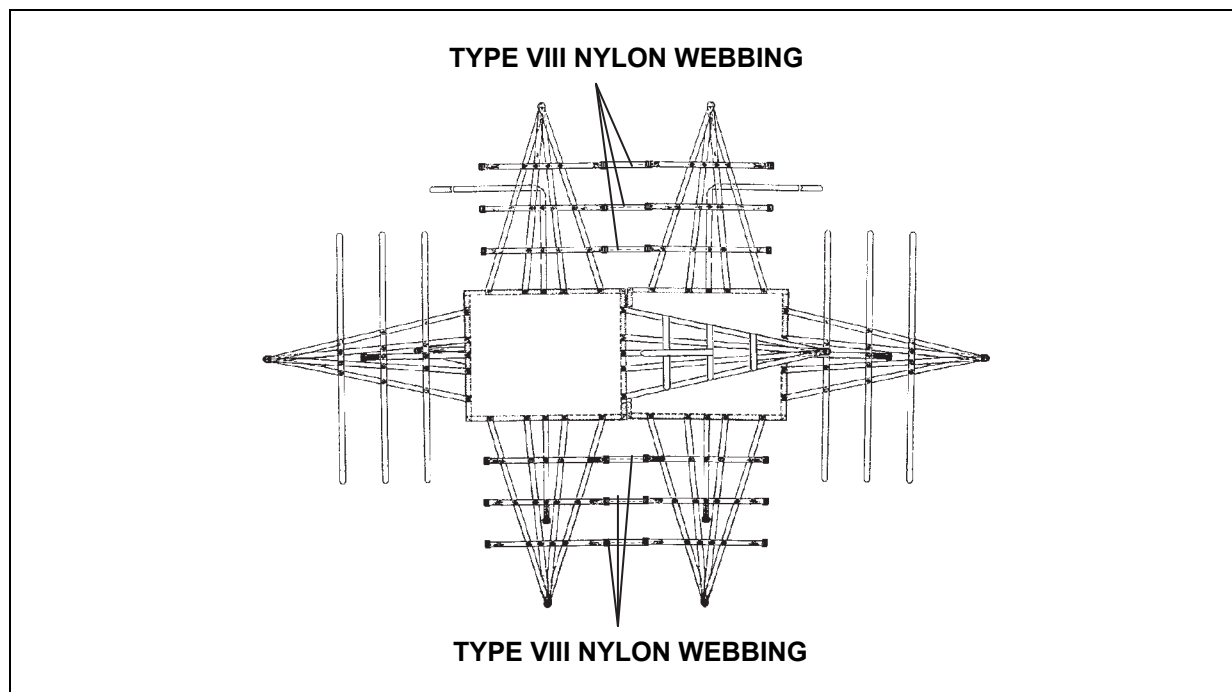

Figure 8-12. Type VIII Nylon Webbing Routed Through Friction Adapters
- Cut six lengths of Type VIII nylon webbing. Route one length through each set of friction adapters at the midsection of the load as shown in figure 8-12. Do not apply tension at this time.